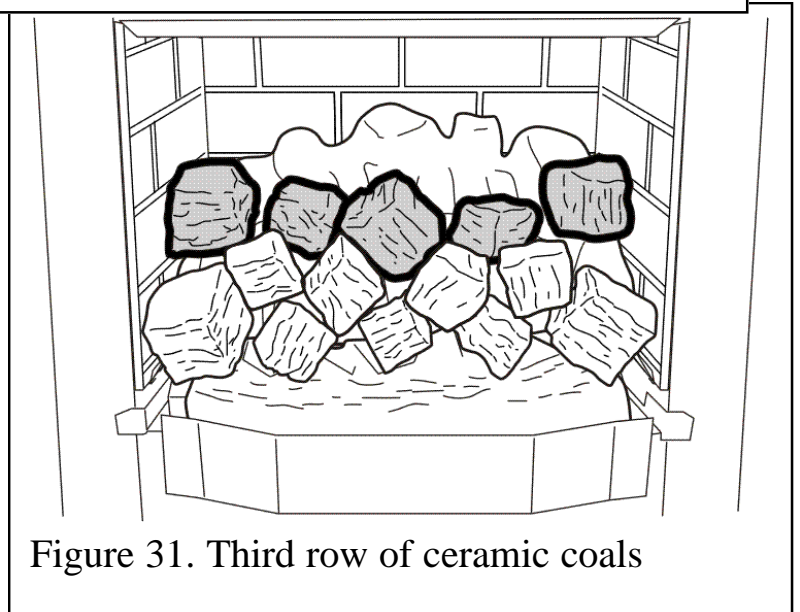

Figure 31. Third row of ceramic coals
Place a small ceramic coal each side of the medium ceramic coal. It is important that these small ceramic coals have a space behind them. (See figure 31).
7. Locate the remaining medium ceramic coals in the valley behind the two large ceramic coals on the front row (See figure 31).